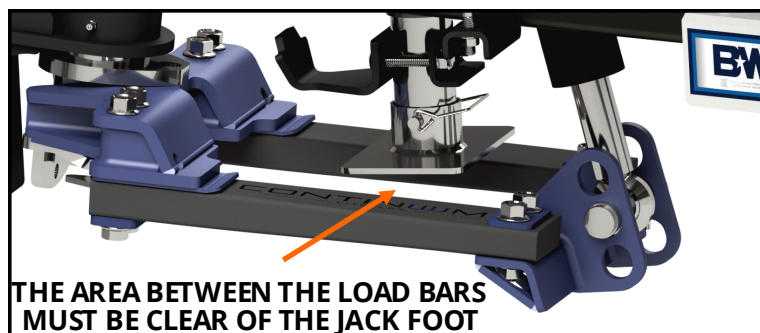

FIGURE L1: View of the jack foot above the load bars.
1. **Jack foot towing position.** Before towing, raise the jack foot above the load bars, **see Figure L1**. If the jack foot or any stationary accessories are not clear of the area between the load bars, remove them before towing. Large objects between the load bars may strike the bars during tight turns. Flexible objects like safety chains may pass between the bars while towing.